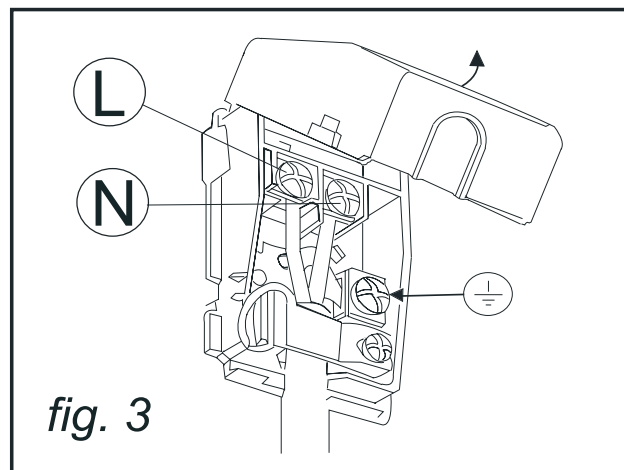

fig. 3
- Connect the supply cable to the terminal strip of the oven (fig. 3), keeping the earth wire 3 cm. longer than the active conductors (live/neutral).